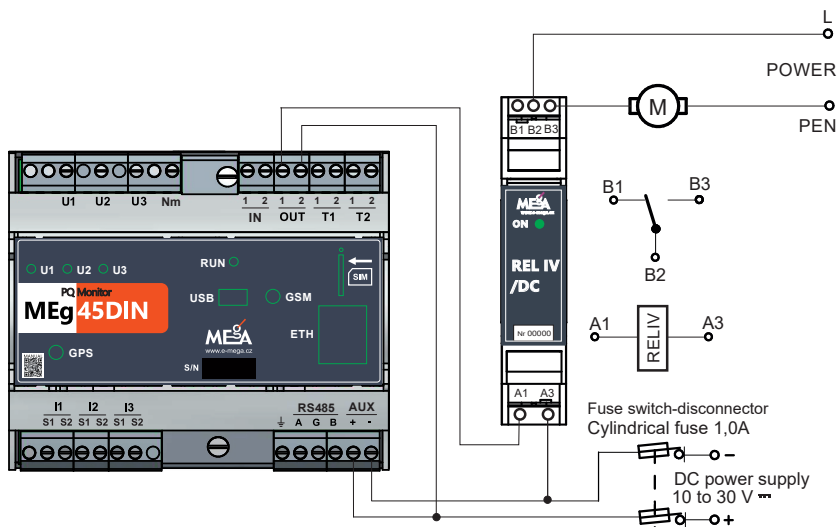
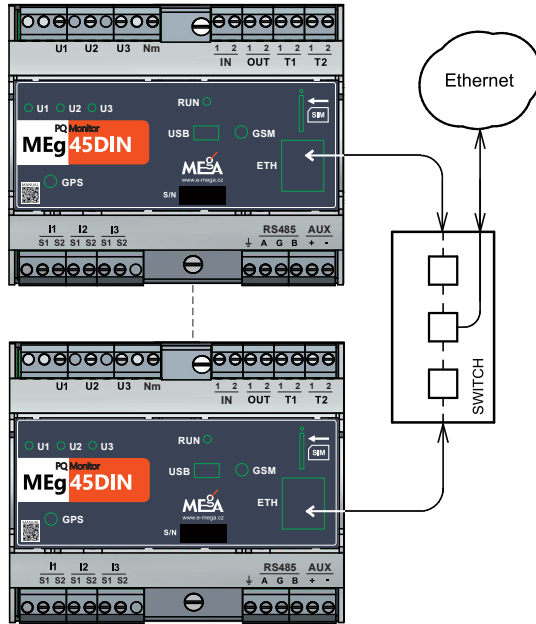

Fig. 15: Communication of MEG45DIN monitors via the RS485 interface
Fig. 18: Data transmission and time synchronization of remote electric meters via a transparent channel of GSM communication of MEG45DIN
The connection of local communication between the measuring and control system and a group of MEG45DIN monitors using the **RS485** interface is shown in Fig. 15. One RS485 interface with the MODBUS TCP allows communication with up to 30 devices. A 120 Ω terminating resistor must be connected between terminals **A** and **B** of the last device connected in the line with the RS485 interface.
Figure 18 shows the use of a MEG45DIN universal monitor with an ARM communication core and a transparent channel with secure two-way data transmission using the Linux IPsec function for GSM data transmission between an electric meter concentrator in DTS and the central IT of a distribution company.
10. Fig. 15 to Fig. 18 show the basic connection of MEG45DIN with local and remote communication.
Figure 15 shows local communication of monitors via the **RS485** interface with a local measuring and control system using a shielded twisted pair. For communication of multiple devices with the RS485 interface, interconnect the **A** terminals of all devices and the **B** terminals of all devices and connect the **G1** terminals of all devices to the shielding of a twisted pair that should not be longer than 30 m in total in a CAT IV 300 V environment. Connect a terminating resistor of 120 Ω between the **A** and **B** terminals of the last communicating device. In MEG45DIN, they can also be connected via a SW command.
Figure 18 shows data collection from electric meters in a LV network through a data concentrator (e.g. type PLC) and their further secure transmission via a transparent channel with the IPsec function through a GSM network to the information system of a distribution company.